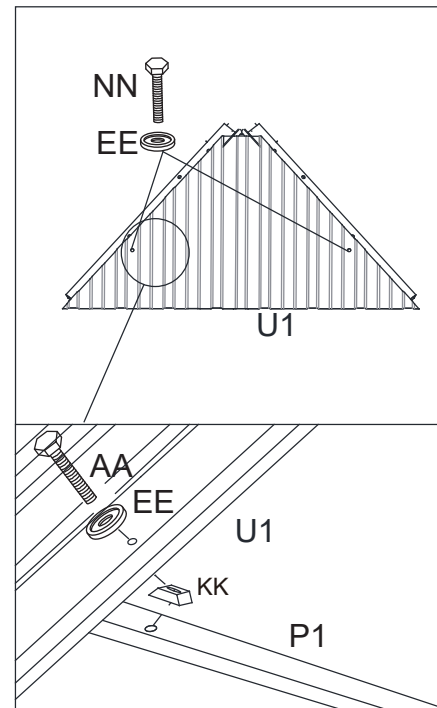
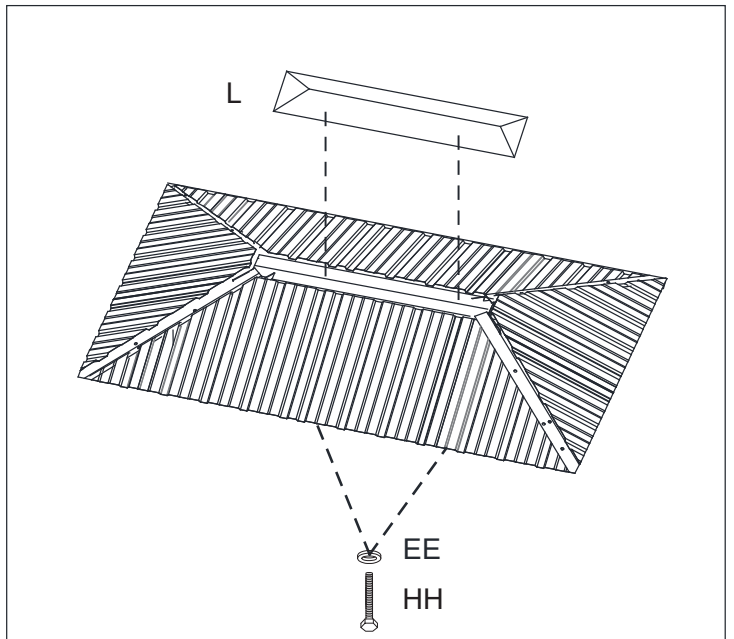

Figure 13-2
Figure 14-3
13.2: Attach Roof Vent Panel (U1) to the Roof Vent Frame and secure to Short Side of the Roof Vent (P1) using Bolt (NN/EE). See Figure 13-2.
14.3: Attach the Roof Vent Top Trim (L) to the Roof Vent Center Support (K2) using Bolts (HH) and washer (EE). Tighten Bolts. See Figure 13-2 and Figure 14-3.